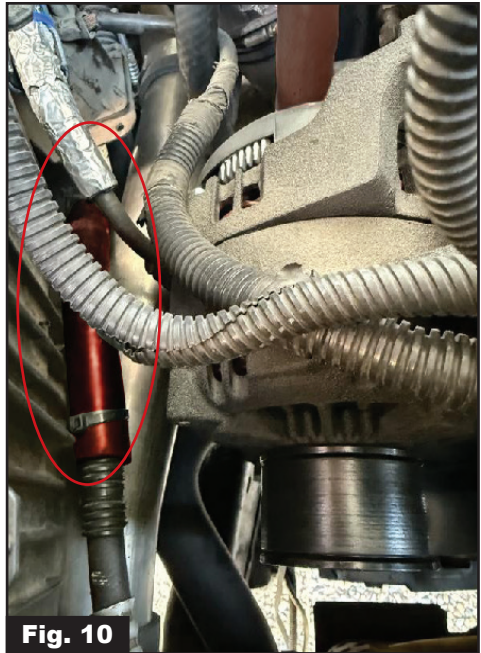

Fig. 10
Step 11. (Optional) Wrap the Heat Sleeve (**J**) around the wire loom and secure it with Zip Ties (**K**). This will protect the wire loom from rubbing (**Fig. 10**).